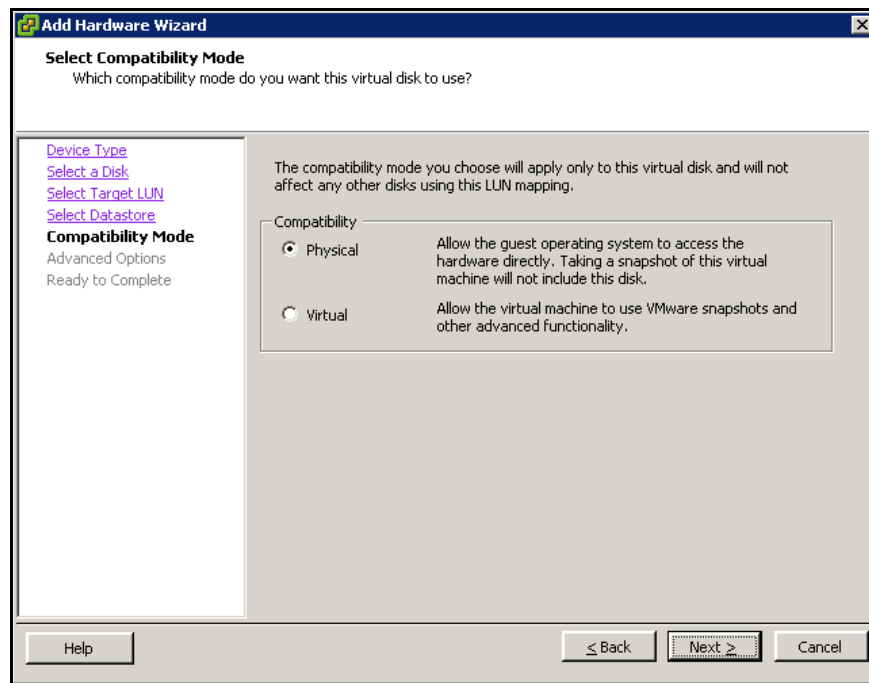

Figure 4-29: Select Compatibility Mode (Add Hardware Wizard)
8. Click **Next**. The Select Compatibility Mode screen appears (Figure 4-29 on page 4-23).